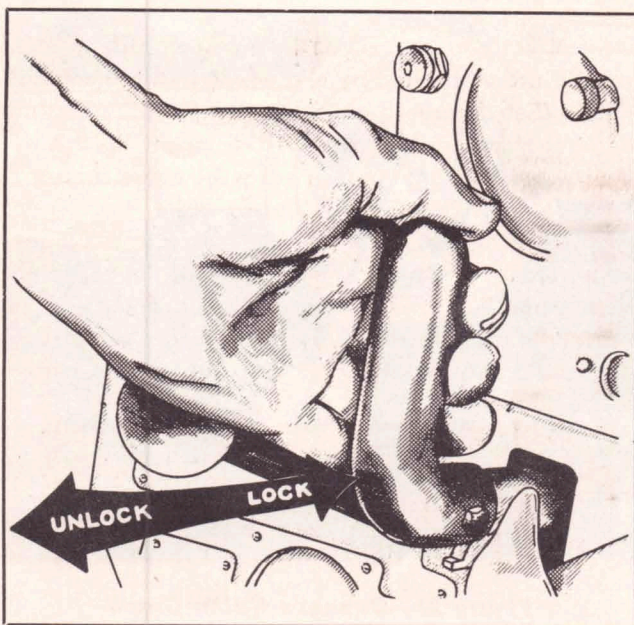
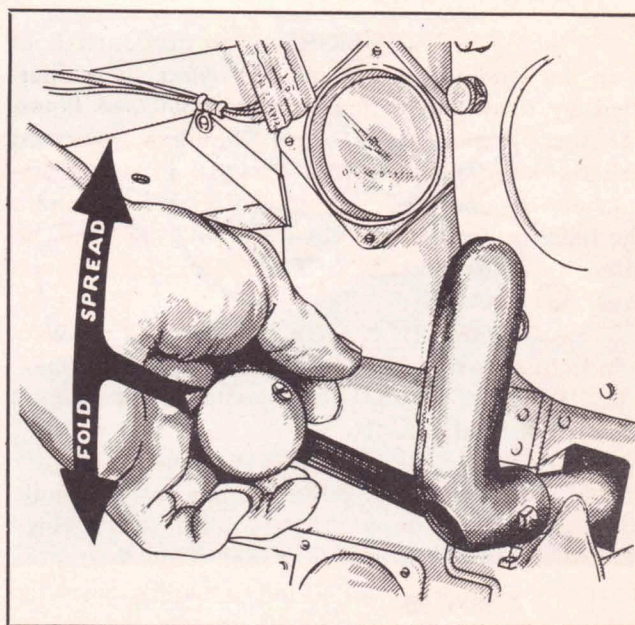

Figure 18—Wingfold Lock Control
Figure 19—Wingfold Valve Control
(1) To fold the wings, pull the "L" shaped handle of the manual wingfold pin control (see figure 18) fully aft until it locks. Then move the hydraulic control lever (see figure 19) down to its "WINGS FOLDED" position.
(2) To extend wings, move the hydraulic control lever up to the "WINGS SPREAD" position. When the wings are seated, the manual wingfold pin control returns to its full forward position, but should be checked by pushing forward on the handle to make certain it is secure.